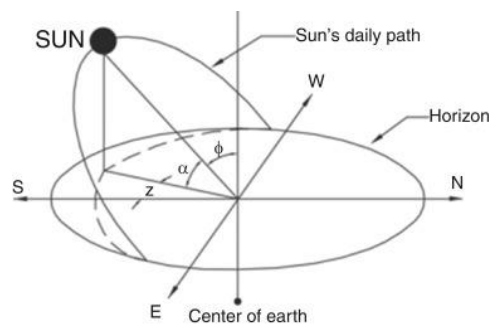
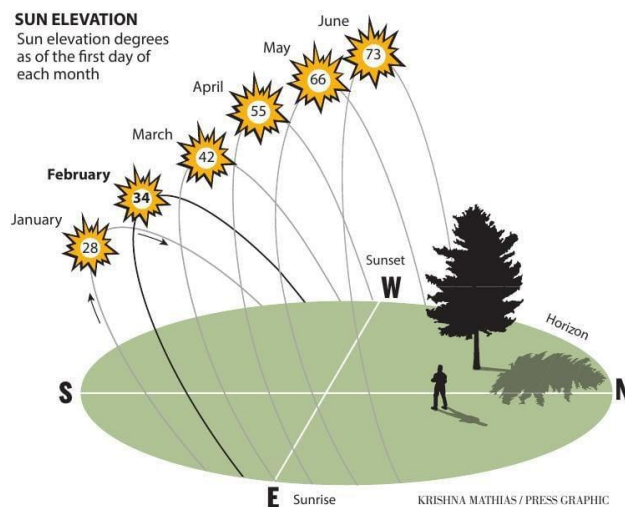
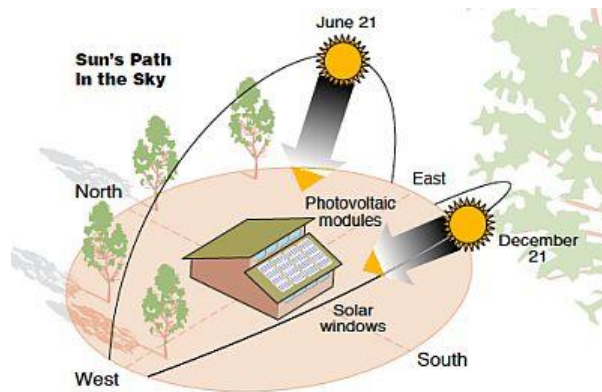

Figure 1: Daily movement of the sun East to West
Figure 2: Monthly & daily movement of the sun East to West
Figure 3: Monthly & daily movement of the sun East to West
- Figure 1 shows the daily solar path, whereas in Figure 2 & Figure 3 you can see the position of the sun in the sky changes as the year progresses.